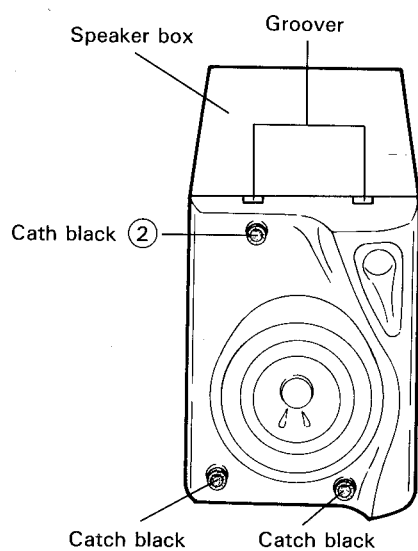
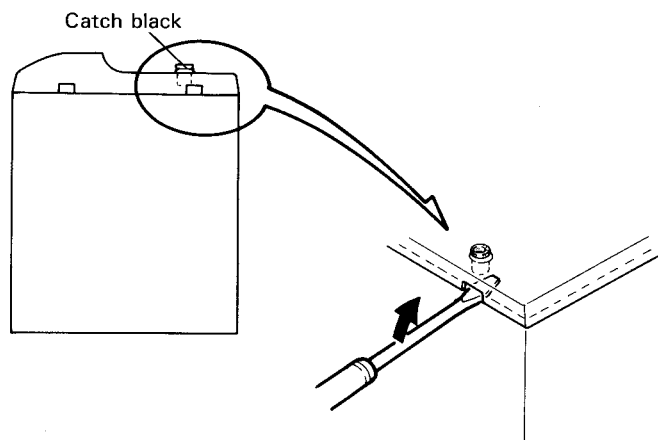

Fig. 7-24
Fig. 7-25
2. Stand the speaker box ⑦ upside down as shown in Fig. 7-24.
3. Insert an ordinary (—) screwdriver into the right hole shown in Fig. 7-24 and Fig. 7-25 and push the bottom end of the catch black ② upside.